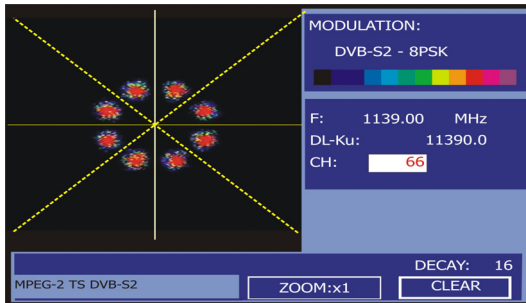

Figure 47.- Constellation Diagram. **DVB-S2 (8PSK)** signal.
4. Enter parameters manually to lock signal or press  [25] (Automatic Identification) for an automatic identification of the signal (Figure 47.-).